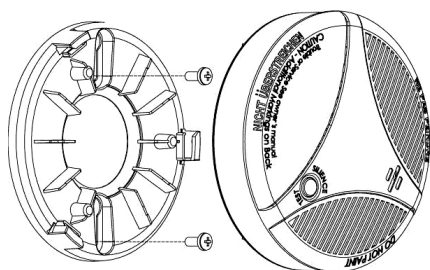

Figure 9: Mounting the bracket
8. Line up the slot of the bracket and the Smoke/CO detector. Pull onward on the Smoke/CO detector to make sure it is securely attached to the mounting bracket, shown in Figure 9.